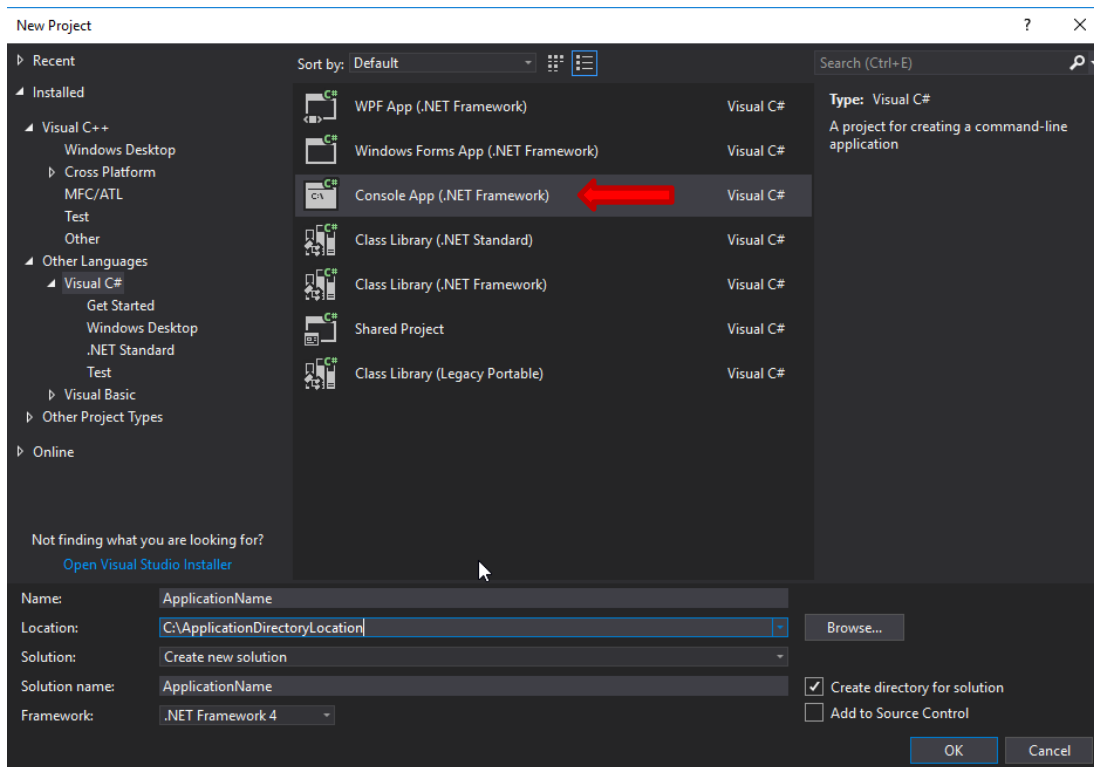

Figure 62 - VS2017 New Project C#
- 8) Open MS Visual Studio 2017 and start a new C# Console Application for the .NET Framework 4 per Figure 62 - VS2017 New Project C#